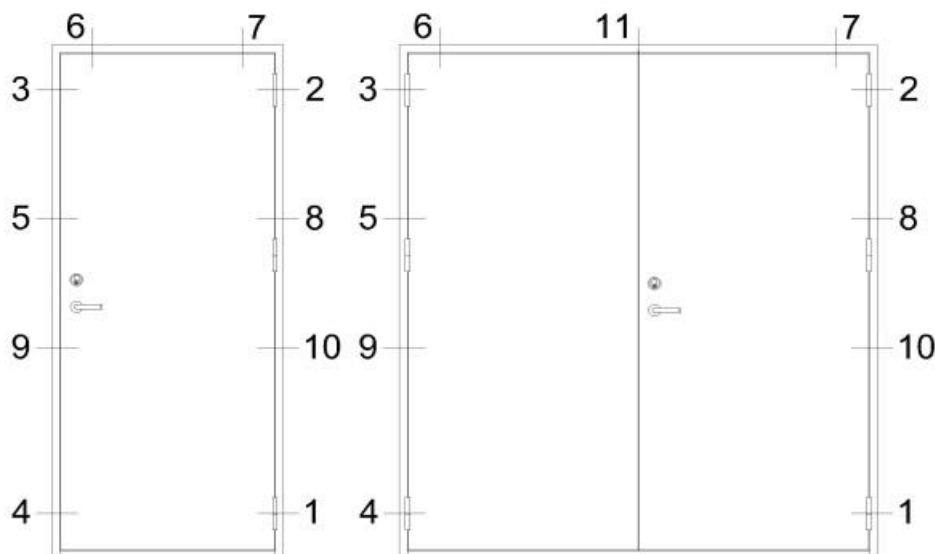
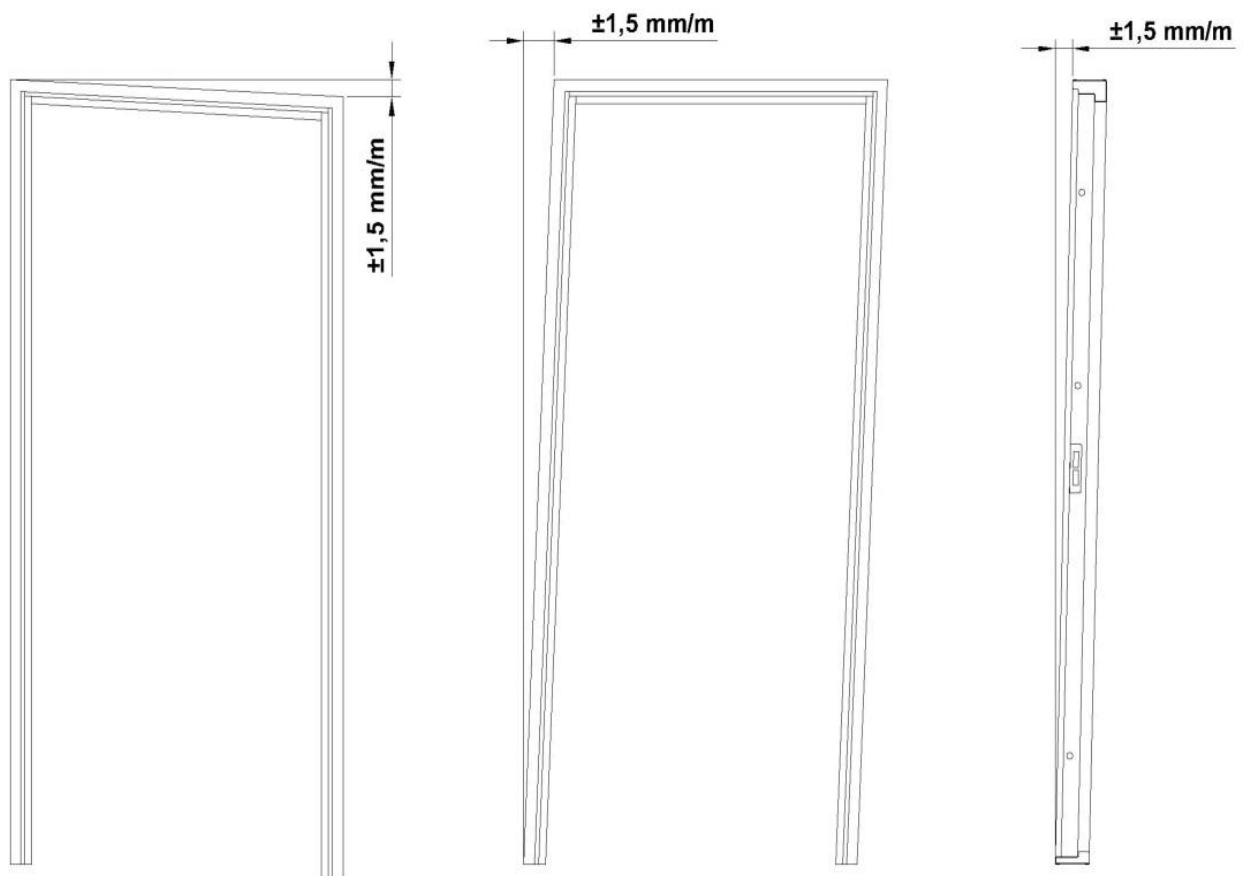

Figure 1 – Layout of the fasteners SMU101/201
Figure 9 – Installation tolerances of the door frame
- 13) Fix fasteners 1, 2 and 3 (see Figures 1; 2 and 3) so that the threshold (if there is one) and the hinge-side door post are level. See Figure 9.
- 19) Fix faster 4 (see Figure 1; 2 and 3)